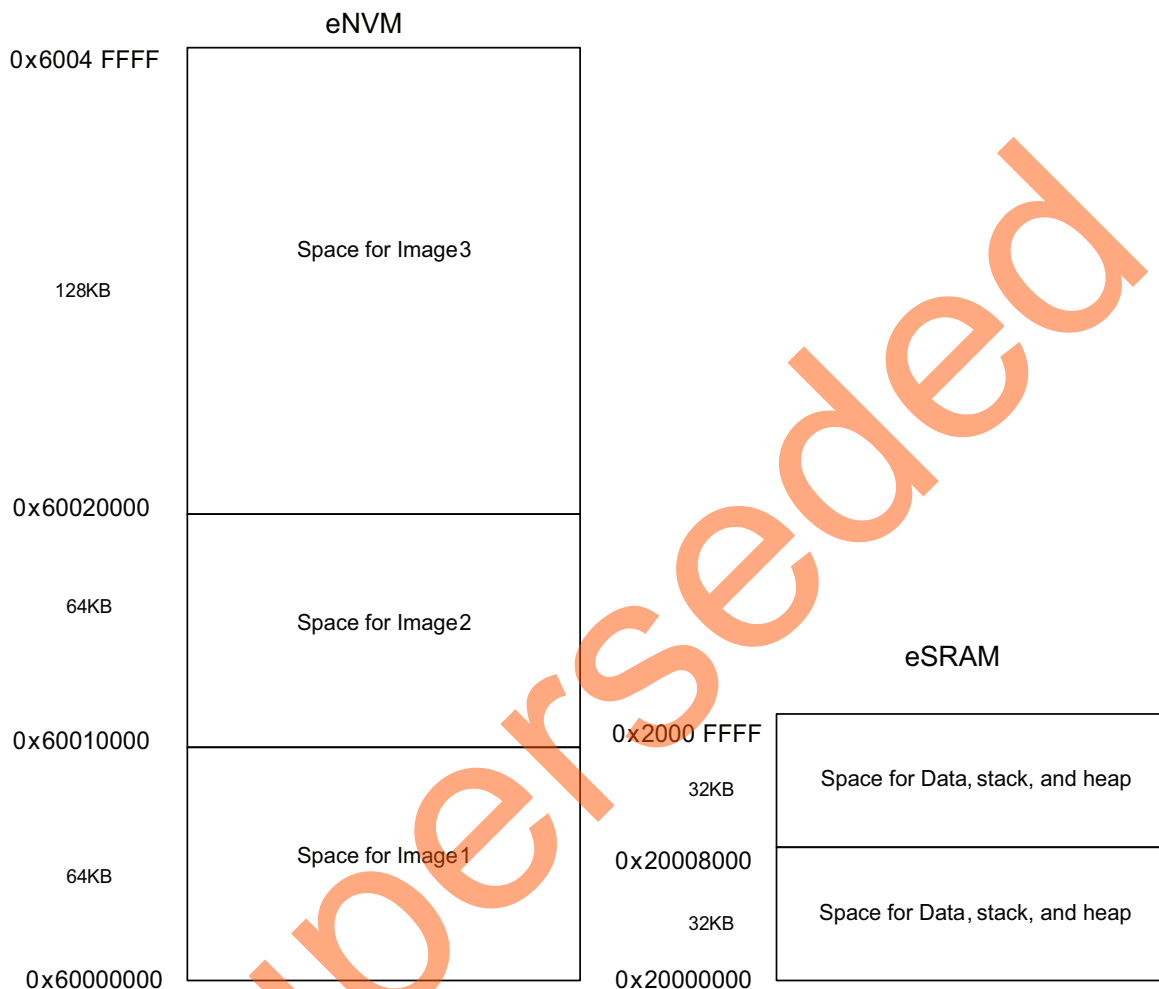
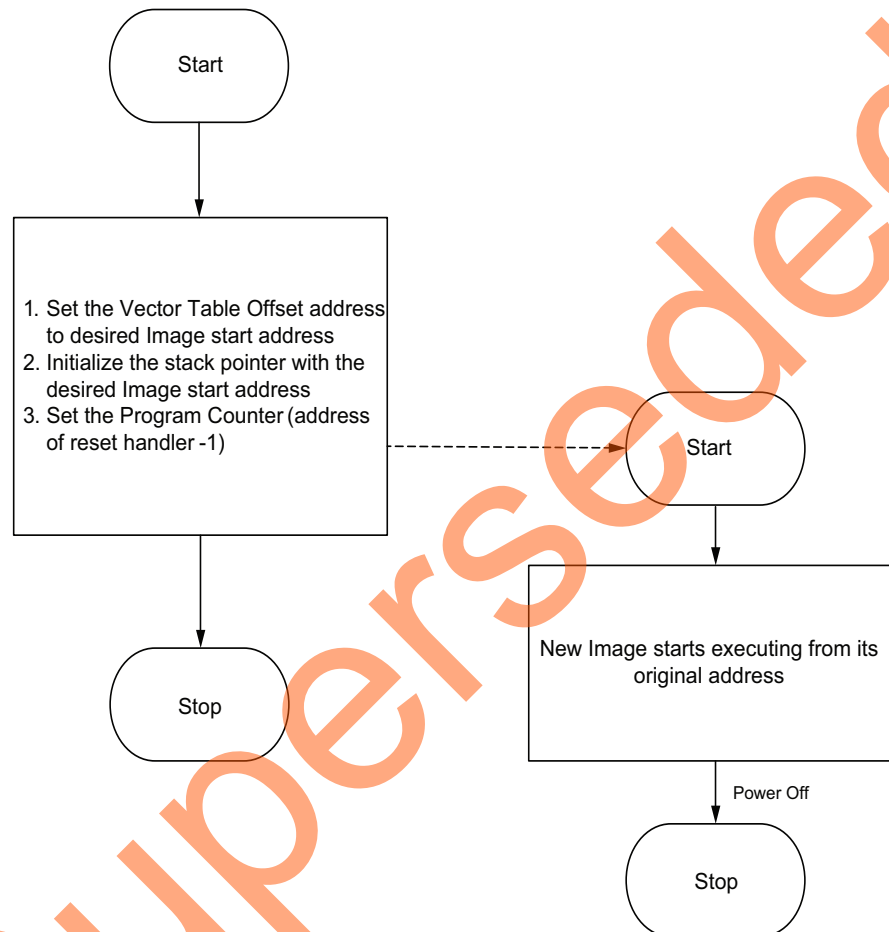
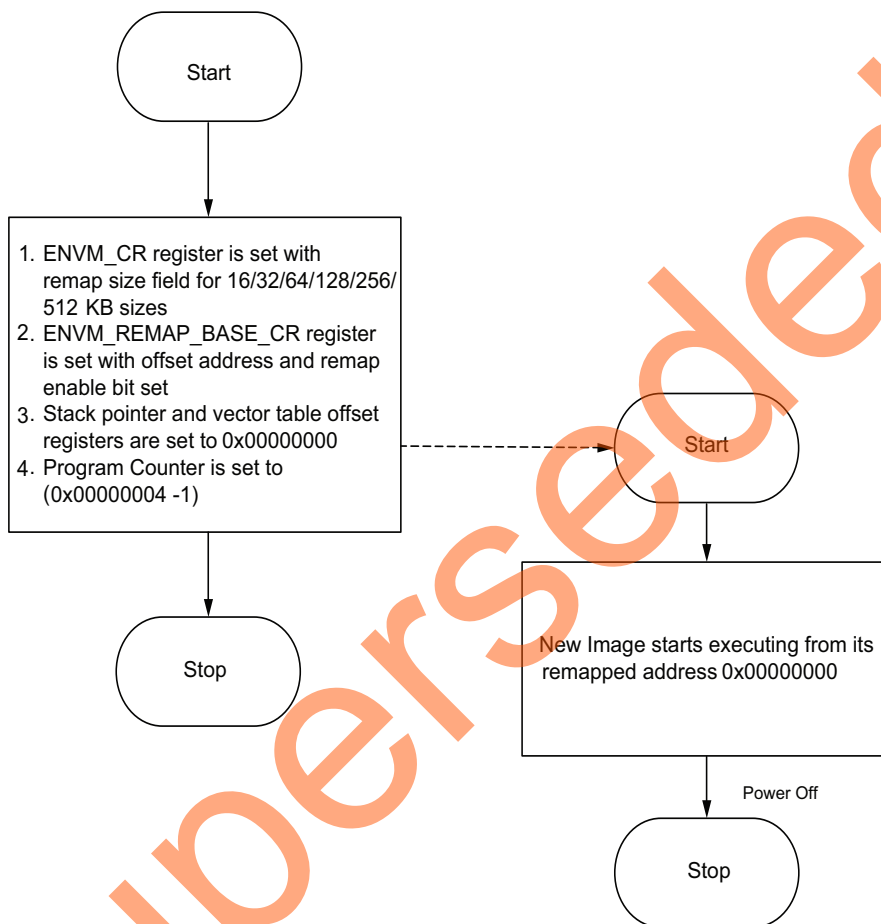

Figure 8 • Example Scenario of Multiple Executable Images in eNVM
Figure 9 • Logic for Moving the Execution Control to New Image in eNVM without Remapping
Figure 10 • Logic for Moving the Execution Control to New Image in eNVM with Remapping
Figure 8 shows an example scenario with multiple executable images in the eNVM regions.
In the example scenario (as shown in Figure 8), there are three images, which can be remapped to the starting address of the Cortex-M3 processor code space, or can be made executable for the Cortex-M3 processor. To create the independent executable images with the required memory map, it is required to create the linker scripts with the required memory map. The linker scripts are provided in the "Appendix A – Design Files" section. Once the executable images are created for the required memory map in Production mode, these images are added in the programming file using the eNVM clients in the Libero® System-on-Chip (SoC) hardware (HW) creation flow.
- **Without remapping:** By default, the eNVM base address 0x60000000 is remapped to the starting address of the code space of the Cortex-M3 processor. The vector table address of the desired image can be set by using the vector table offset register in the system registers, and pointing the stack pointer (SP) and program counter to the reset handler address of the desired image. This allows the Cortex-M3 processor to execute the new image. The eNVM offset address should be used in the linker script generation for the executable images in this approach. This approach is explained in the flow chart shown in Figure 9.
For example, for the memory map of the different images explained in the Figure 8, the images are built with the base address as shown in Figure 8. If you need to run the Image 2 while Image 1 is running, use the following steps (explained in Figure 9):
- **With remapping:** In this approach, the new image address can be remapped to the starting address of the code region of the Cortex-M3 processor by using the ENV_M_CR, ENV_M_REMAPSIZE, and ENV_M_REMAP_BASE_CR registers. As the new image address is remapped to the bottom (0x0000_0000) of the Cortex-M3 processor code region, the linker scripts take care of building the images from the bottom (0x0000_0000) code region. The eNVM offset address should not be used in this approach. This approach is explained in the flow chart shown Figure 10.
For example, for the memory map of the different images explained in the Figure 8, the images are built with 0x00000000 as base address. If you need to run the Image 2 while Image 1 is running, use the following steps (explained in Figure 10):